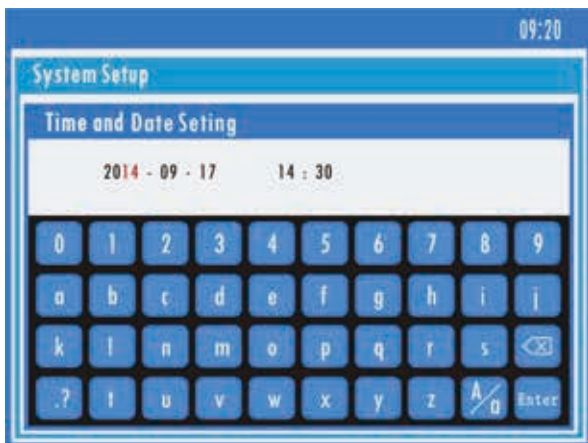

Fig 5-6 Time and Date Setup
- **Date Setup:** Click to modify year, month and date. Click enter to confirm system time update. (Figure 5-6)